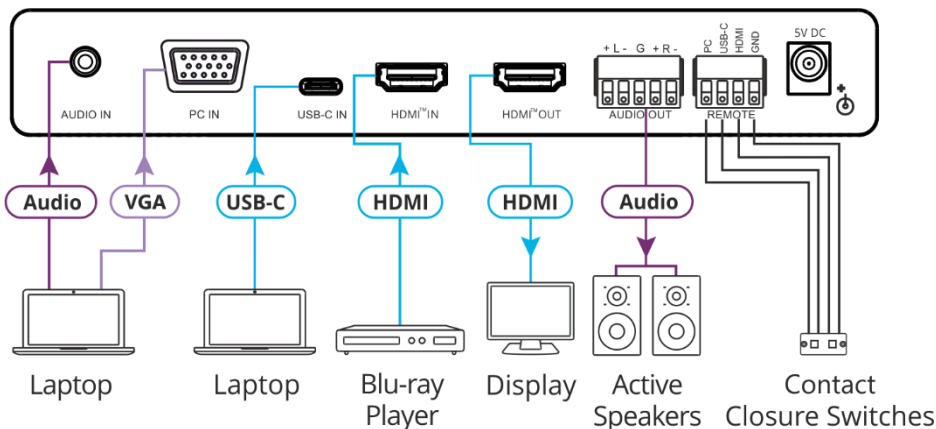

Figure 5: Connecting to the VP-426C Rear Panel
To connect the **VP-426C** as illustrated in the example in Figure 5:
- The unbalanced stereo audio PC source to the AUDIO IN 3.5mm mini jack (11).
- The VGA signal to the PC 15-pin HD connector (12).
2. Connect a USB-C source (for example, a laptop) to the USB-C port (13).
3. Connect an HDMI source (for example, a Blu-ray player) to the HDMI IN connector (14).
4. Connect the HDMI OUT connector (15) to an acceptor (for example, a display).
5. Connect the AUDIO OUT 5-pin terminal block connector (16) to a balanced stereo audio acceptor (for example, Kramer **TAVOR 6-O** active speakers).
6. Connect the REMOTE 4-pin terminal block connector (17) to contact closure switches (for example, Kramer **RC-22TB**).
7. Connect the power adapter to the **VP-426C** power connector (18) and to the mains electricity (not shown in Figure 5).
To connect the **VP-424C** as illustrated in the example in Figure 5:
1. Connect a USB-C source (for example, a laptop) to the USB-C port (13).
2. Connect an HDMI source (for example, a Blu-ray player) to the HDMI IN connector (14).
3. Connect the HDMI OUT connector (15) to an acceptor (for example, a display).
4. Connect the REMOTE 4-pin terminal block connector (17) to contact closure switches (for example, Kramer RC-22TB).
5. Connect the power adapter to the **VP-424C** power connector (18) and to the mains electricity (not shown in Figure 5).